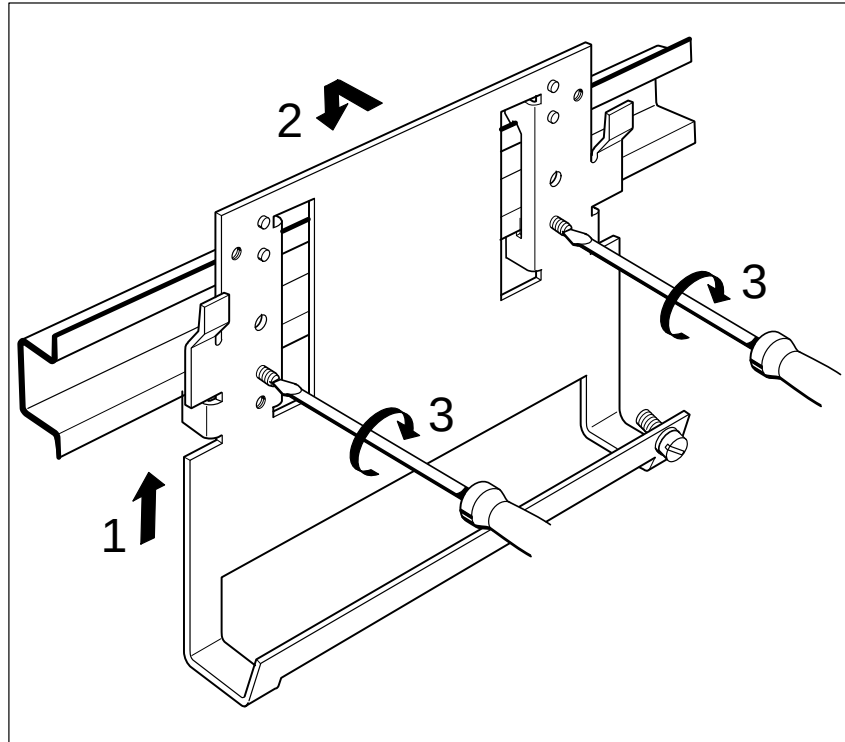

Figure 3-5 Mounting the Shield Connecting Element on the Standard Sectional Rail
2. Remove the terminal block and the shield connecting element in the reverse sequence to that described in Figures 3-5 and 3-6.